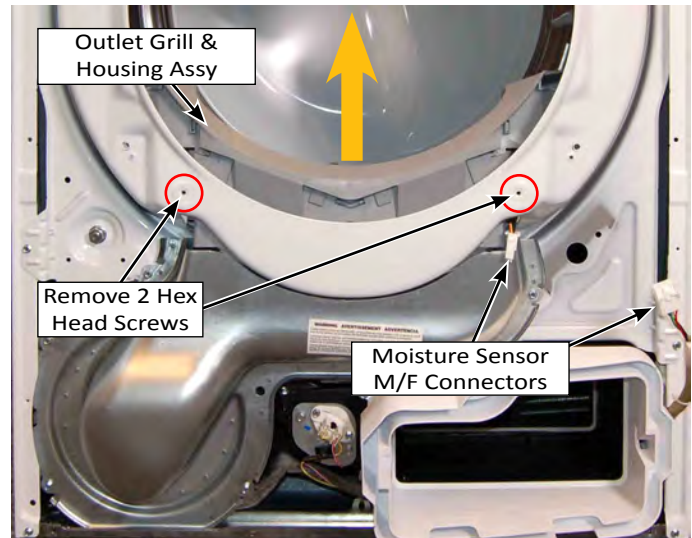

Figure 2
5. Remove two (2) 1/4" hex-head screws securing the Outlet Grill & Housing Assembly to the front bulkhead (see Figure 2).
6. Lift up the Outlet Grill & Housing Assembly from the bulkhead (see Figure 2).